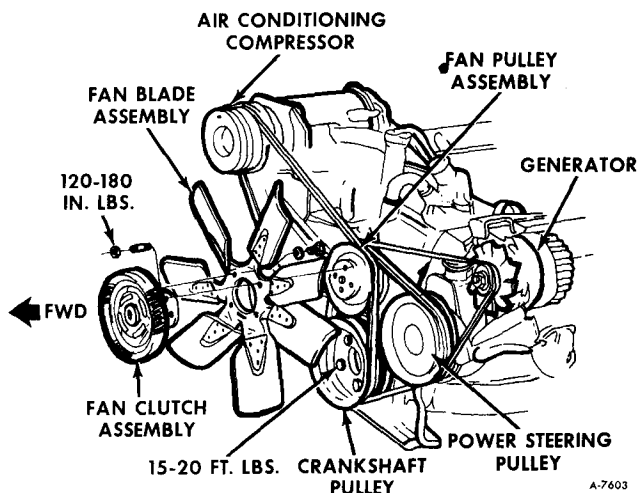

Figure 1—Fan and Drive Belts
2. Remove the four nuts attaching fan clutch to water pump hub (see figure 1).
the fan to the fan clutch and torque to 15-20 ft. lbs. (See figure 1).
3. Remove four nuts attaching fan clutch to water pump hub. (See figure 1.) Position fan and fan clutch assembly forward in the shroud. Be careful not to allow the assembly to damage the radiator core.
5. Install fan and fan clutch assembly. Torque four nuts to 15-20 ft. lbs. See figure 1.